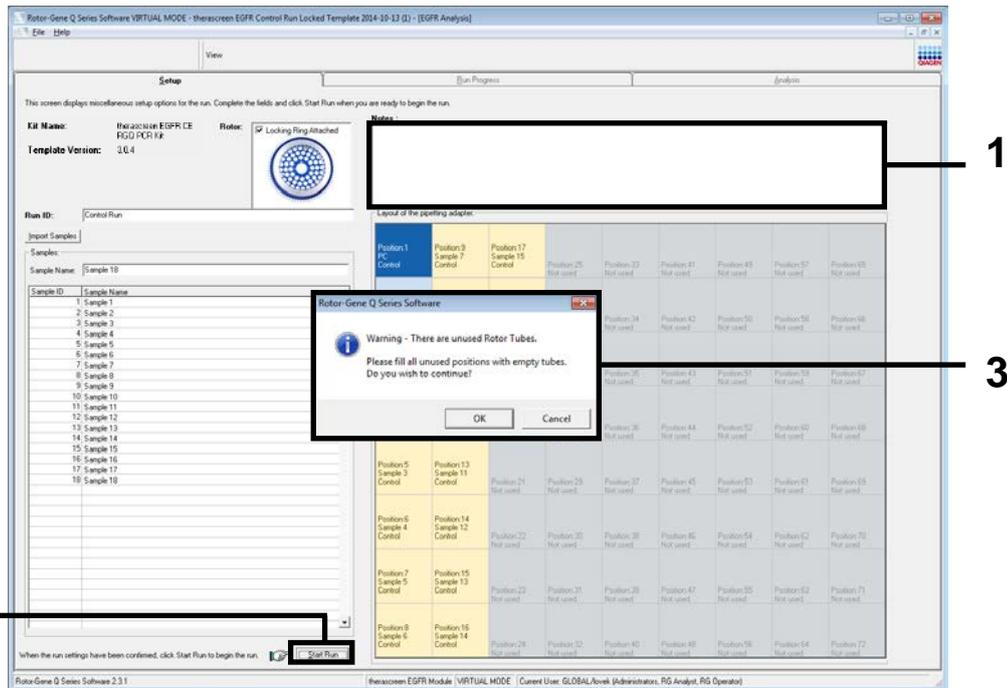

Figure 5. “Notes” dialog field (1), the “Start Run” button (2), and “Warning” of unused rotor positions (3).
16. When all sample names are entered, check they are correct. Add any additional information in the “Notes” dialog field if necessary and then click “Start Run” (Figure 5).
Note: If any rotor position is unused, a “Warning” will appear (Figure 5) to remind the user that all unused positions on the rotor must be filled with capped, empty tubes. Check that all unused rotor positions are filled with capped, empty tubes and click “OK” to proceed.